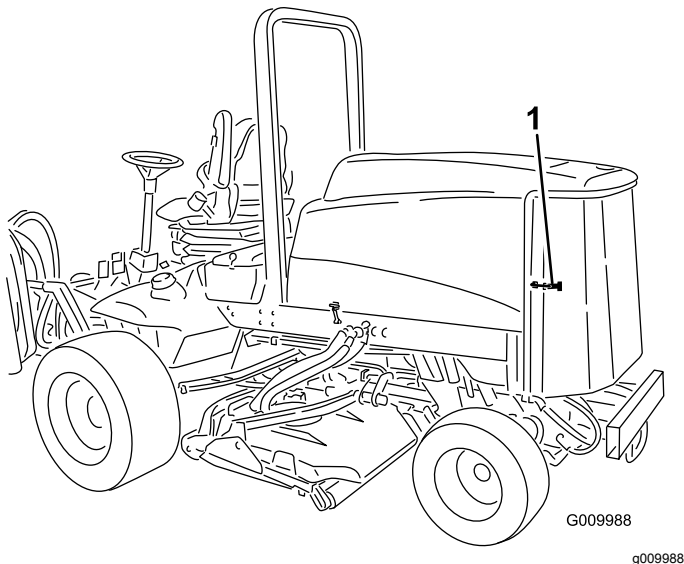

Figure 72
1. Unlatch and swing open the rear screen (Figure 72).